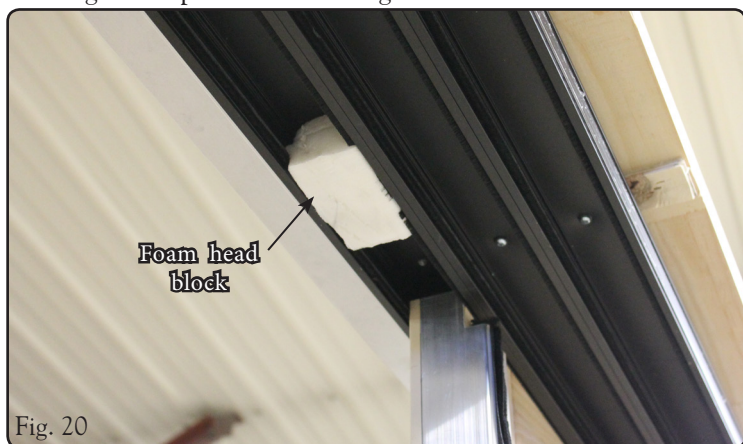

Fig. 20
- Each foam head block needs to be placed in each track where the head track cap ends. Temporarily locate the head track cap in the head track to determine placement of foam head block. (Fig. 20 & 21). The foam head block needs to stick out 1/16" to 1/8" past the end of the head track cap (Fig. 21).